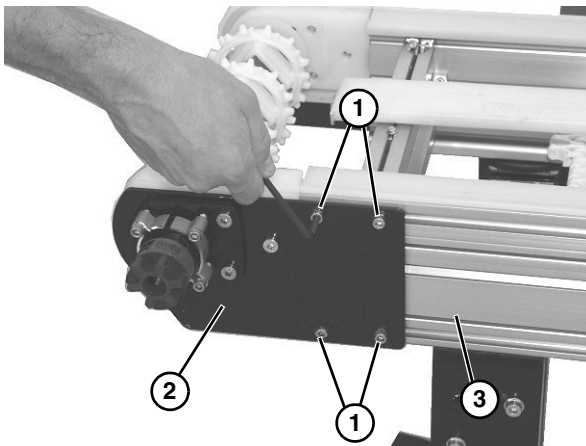

Figure 31
2. Loosen the four socket head screws (**Figure 31, item 1**). Repeat on opposite side.
3. Remove the drive tail assembly (**Figure 31, item 2**) from the frame (**Figure 31, item 3**).